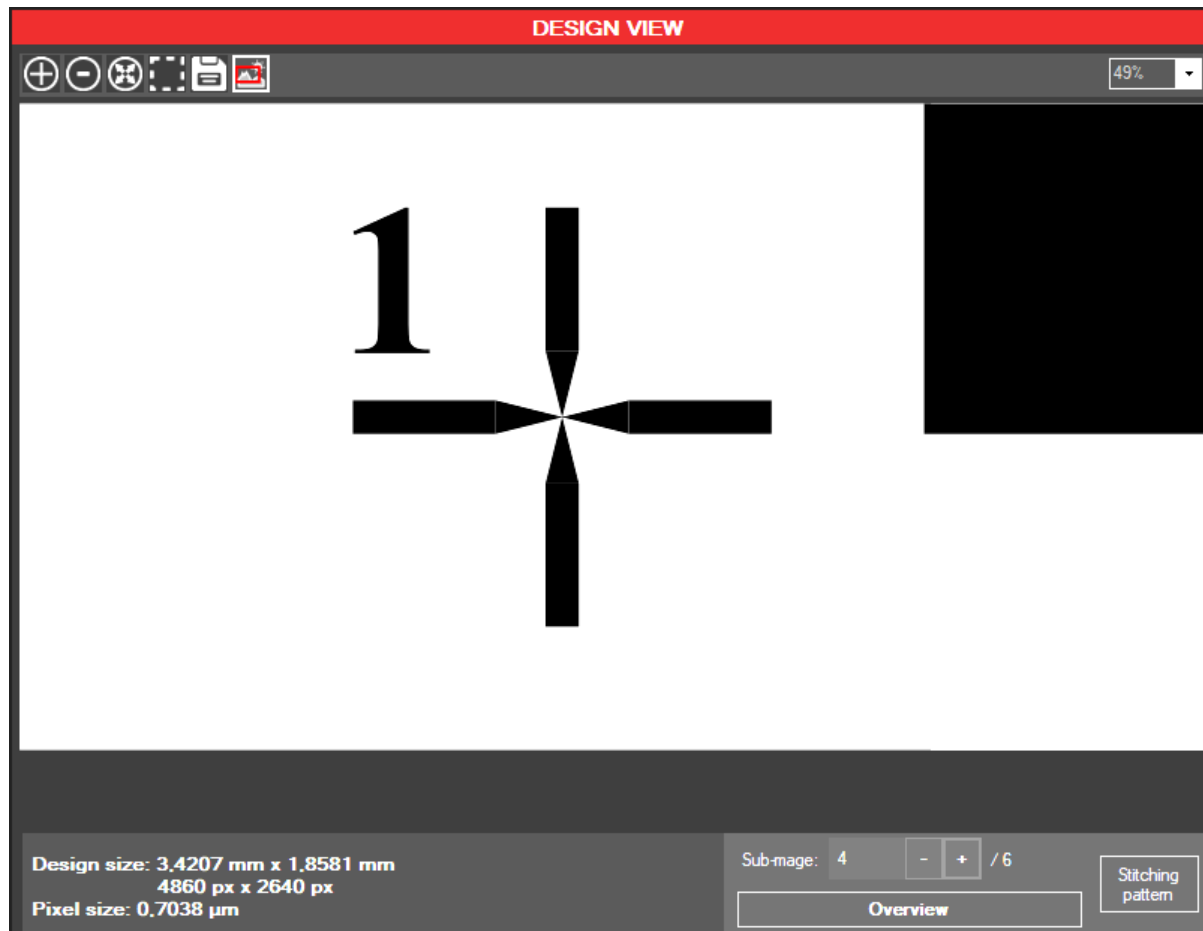

Figure 64 - Semi-auto alignment: defining point P1
- Selection of point P1 (Figure 61c): click on the **Overlay pos. P1** button. The mouse cursor will change to a cross. On the **IMAGE VIEWER** panel, select the point you want to align with P1' as shown in Figure 64